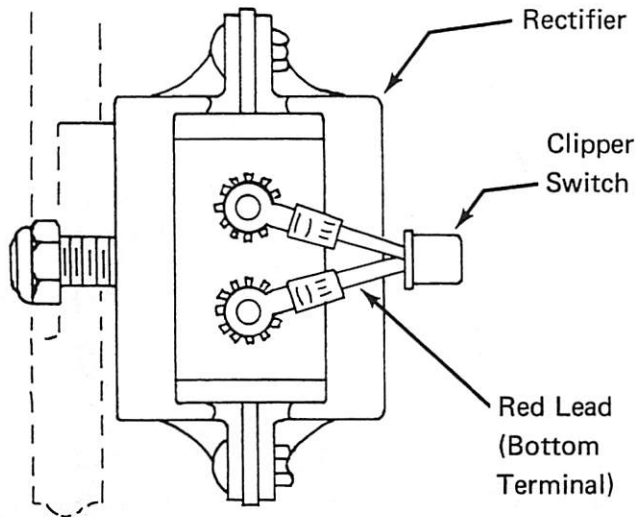

Figure 6. Shorting Clipper Installed
4. Install shorting clipper with red lead on bottom terminal. (Figure 6)